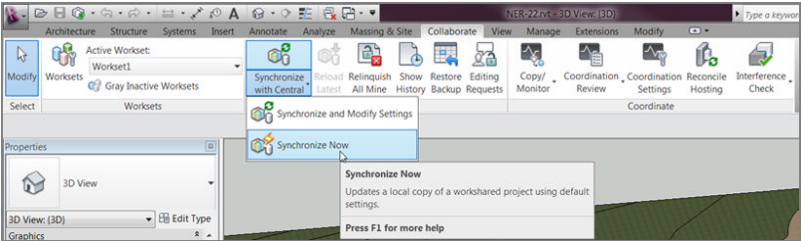

FIGURE 22.7: Choosing Synchronize Now
- 7. On the Collaborate tab, choose Synchronize With Central ➤ Synchronize Now, as shown in Figure 22.7. Doing so saves any changes made.